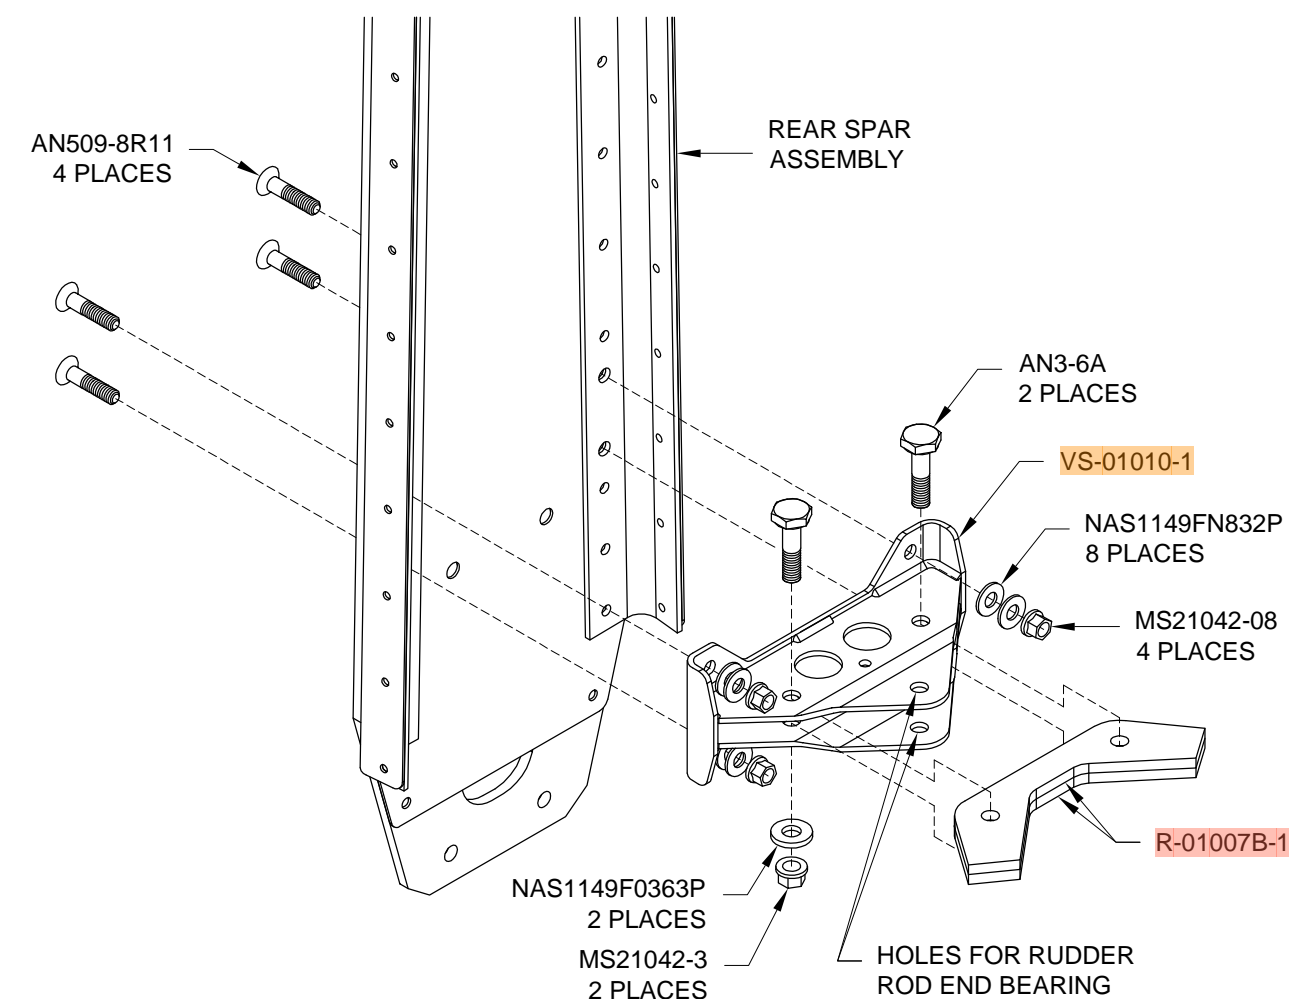

FIGURE 2: ATTACHING THE BOTTOM HINGE BRACKET AND RUDDER STOPS
Step 2: Use a #12 drill bit to clean the powder coating from the three sets of #12 holes in the VS-01010-1 Bottom Rudder Hinge Bracket. These holes are used to bolt on the R-01007B-1 Rudder Stops and the bottom rod end bearing of the rudder. See Figure 2.
Step 3: Heavily deburr (and straighten if necessary) the two R-01007B-1 Rudder Stops, then bolt them in the VS-01010-1 Bottom Rudder Hinge Bracket as shown in Figure 2.